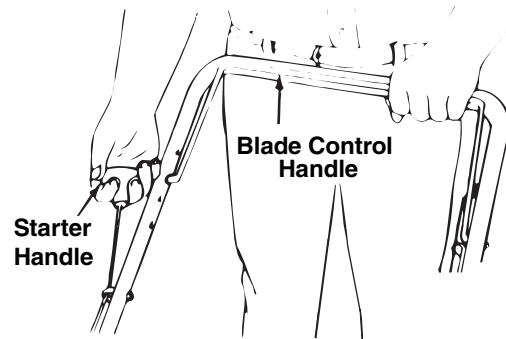

Figure 10
- Standing behind the unit, depress the blade control handle and hold it against the upper handle as shown in Figure 10.